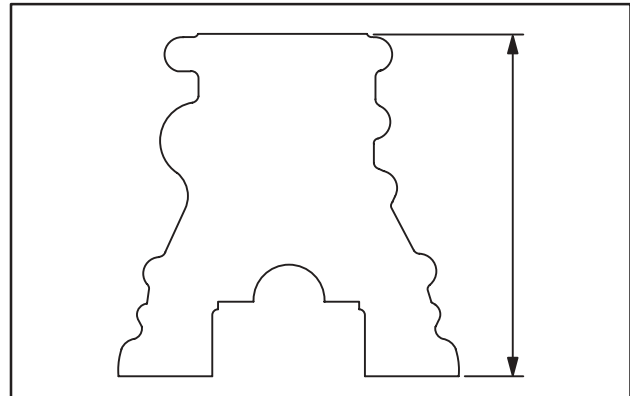

Fig. 2 – Cylinder Block Height
2. If cylinder block exceeds limit shown, it may be resurfaced, Fig. 2.